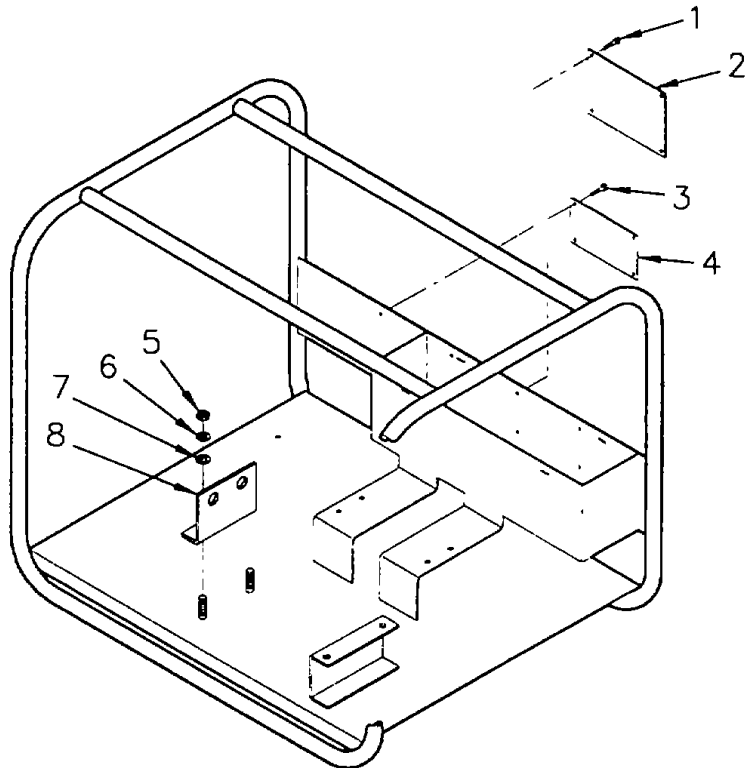

Figure 4-17. Frame Assembly
- (1) Remove screws (1, Figure 4-17) and nameplate (2).
- (2) Remove screws (3) and instruction plate (4).
- (3) Remove two hex nuts (5), two lockwashers (6), two flat washers (7).
- (4) Remove bracket (8).